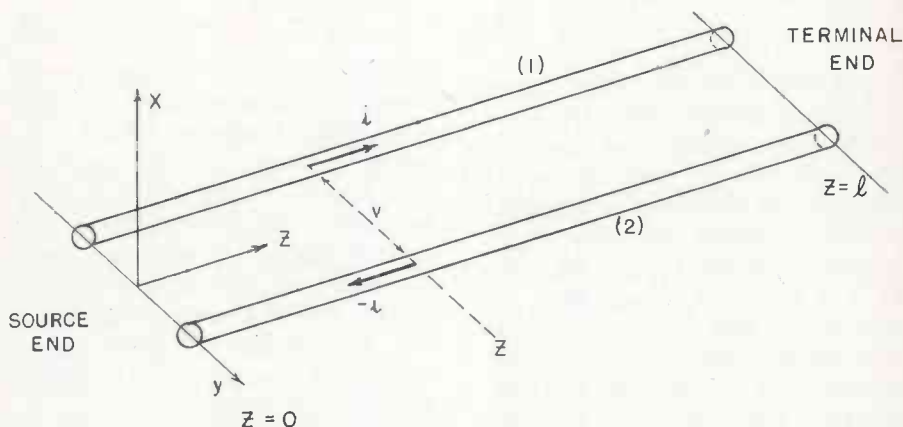

Fig. 1. Conventional two wire transmission line
Assume a comparatively long line as in Fig. 1, with dc or low frequency ac voltage applied. At any point z along the line, we presume that we can measure current i with an ammeter and voltage v with a voltmeter in the conventional way. Two basic assumptions are involved in this procedure, firstly that the manner of connecting between the voltmeter and the two opposite points on the line is irrelevant, and
Considering the line in Fig. 1, we can state the current voltage relations, if we disregard both resistance and leakage, in the simple form
The power passing through any cross-section of the transmission system as given in Fig. 1 is conventionally measured as vi and can be expressed with (9) and (10) for the forward wave as